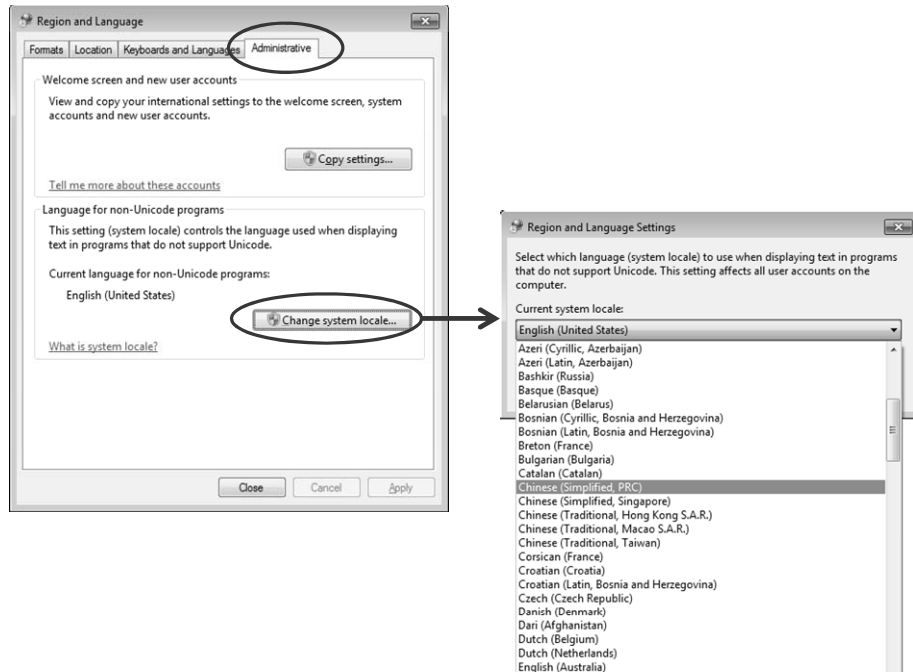

Figure 8. Changing System Locale
3. Go to the Administrative tab and click "Change system locale ...". See Figure 8 (page 61).